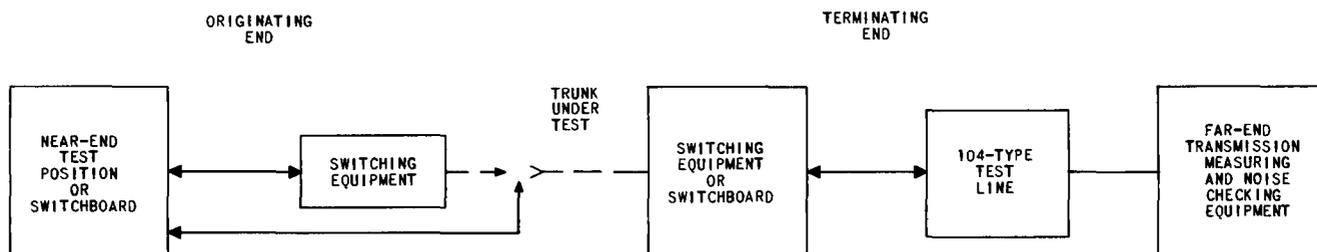

Fig. 1 — Typical Manual Transmission Measurement Setup
The far-end transmission measuring and noise checking equipment and 104-type test lines are described in Section 103-235-100. A typical manual transmission measurement setup using 104-type test lines associated with the far-end transmission measuring and noise checking equipment is shown in Fig. 1.
**Note:** Figure 1 shows the general arrangement for making tests from a manual test position.